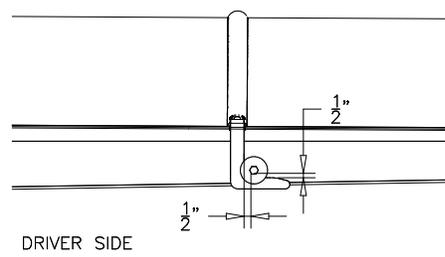

Figure 17
Close the tarp and lock the crank handle. Double check the tarp tension and timing. Align the short hold down bracket (A) with the center hoop. Drill a 3/8" hole through the end of the hoop. Fasten the hold down bracket to the hoop with the 3/8"x1-1/2" button head bolt and 3/8" nylon lock nut provided. Drill a 1/2" hole at a horizontal and vertical distance of 1/2" from the inside edge of the hold down bracket (see Figure 17). Insert the 1/2"x8" hex bolt assembly (B) through the top hole in the support bracket (C) and through the 1/2" hole in the trailer side boards. Mark the location of the lower hole in the support bracket (E) along the side boards. At the marked location, drill a 1/2" hole through the side boards. Secure with the 1/2"x2-1/2" hex bolt and 1/2" nylon locknut.
**Note:** One support bracket (C) should be located on the inside and the other on the outside of the wood side boards.
Close the tarp and lock the crank handle. Evenly space the long (D) and short (A) hold down brackets along the length of the trailer. For example, if the tarp has 15 hoops, mount the long hold down bracket on the 5th hoop from the front of the trailer and the short hold down bracket on the 10th hoop. Secure the long hold down bracket (D) to the first hoop selected. Drill a 1/2" hole through the side boards at the location shown in Figure 17. Secure the 1/2"x8" hex bolt assembly. Follow the Single Safety Latch Installation for mounting the short safety latch assembly.
**Note:** The support brackets (C) are to be used with the short hold down bracket (A) only.